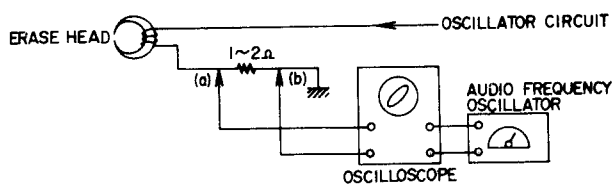

Fig. 1
## 1. ADJUSTMENT OF RECORDING BIAS FREQUENCY (See Fig. 1)
- B. In certain instances, Bias Frequency is measured by connecting the Frequency Counter, leader wire to points (a) (b) as shown in Fig. 1 and reading the Frequency Counter indication.